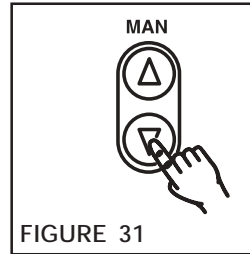

FIGURE 31
1. Press the **MAN**ual Key to adjust the TAPER function setting (See Figure 31).